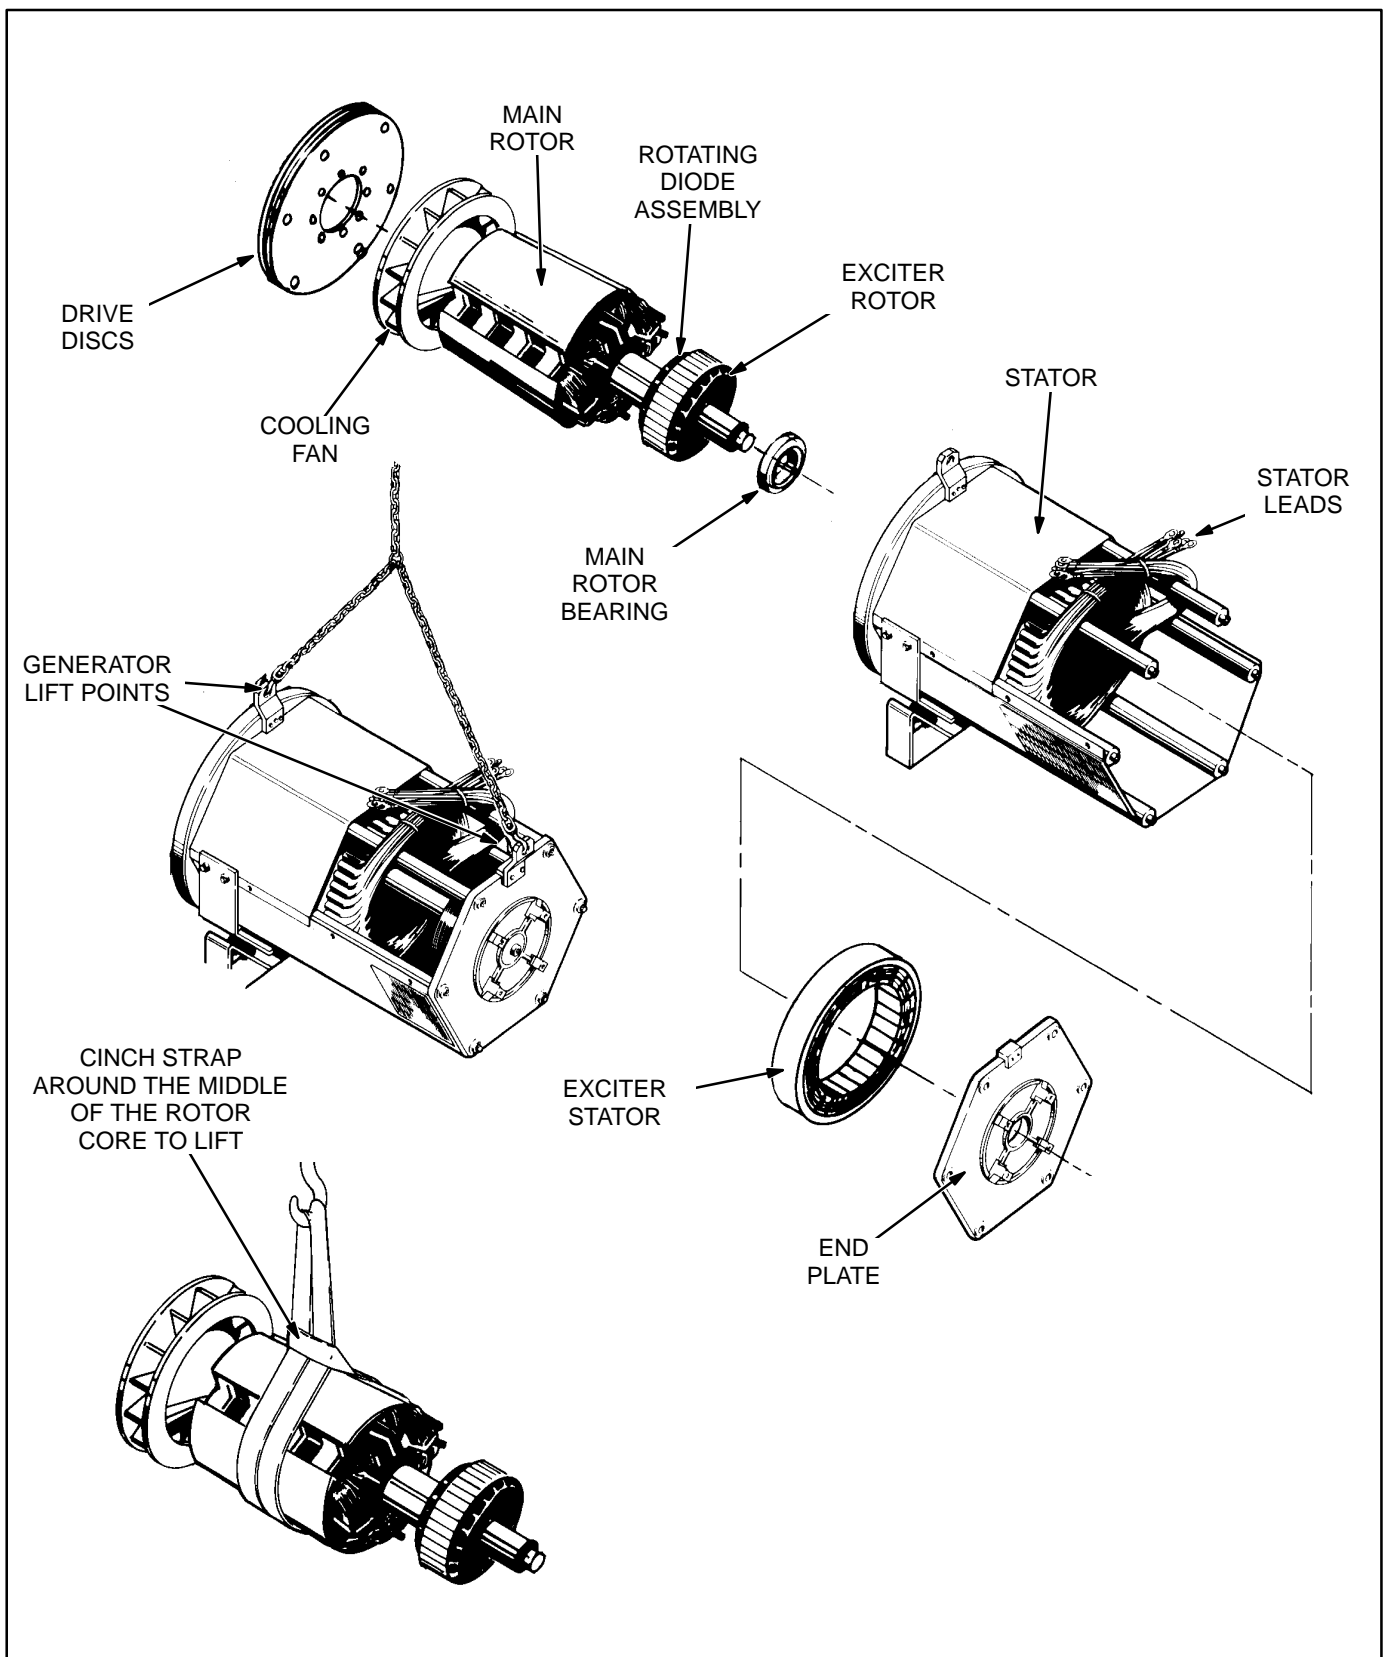

FIGURE 6-5. GENERATOR ASSEMBLY
2. Attach a lifting eye on each end of the generator using two M10 screws for each lifting eye (Figure 6-5).